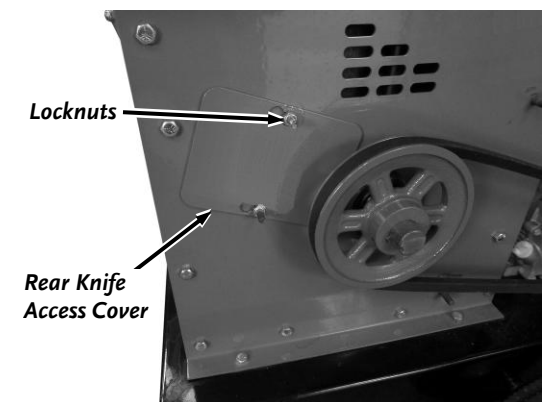

Figure 32
- Loosen the Locknuts that secure the rear Access Cover, then slide the Cover over and lift it off the Locknuts (**Figure 32**).